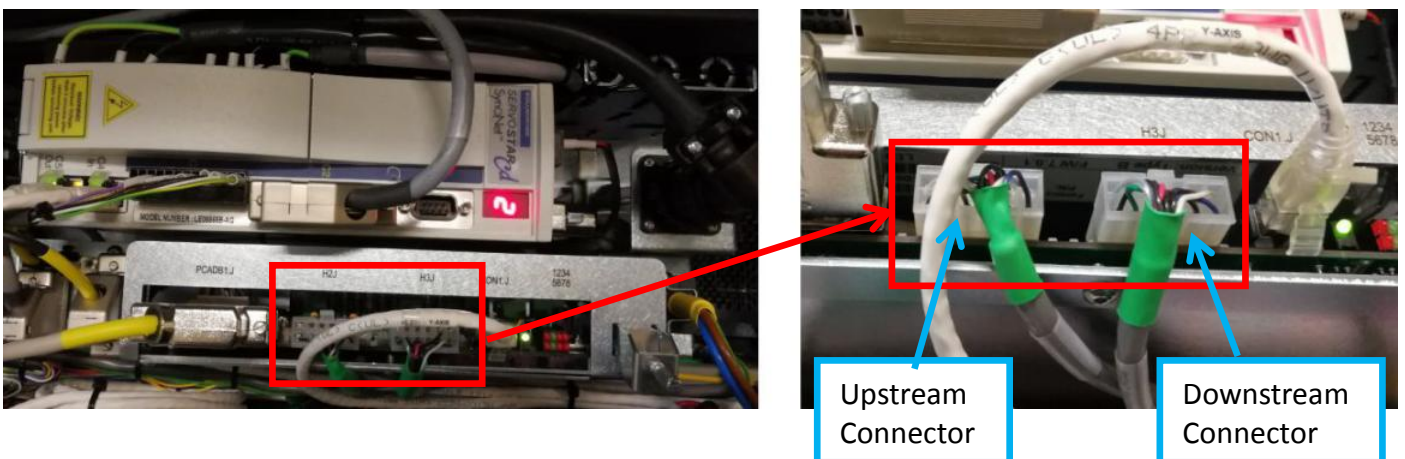

Figure 25
30. Connect Upstream & DownStream Connector at H2J & H3J as Figure 25